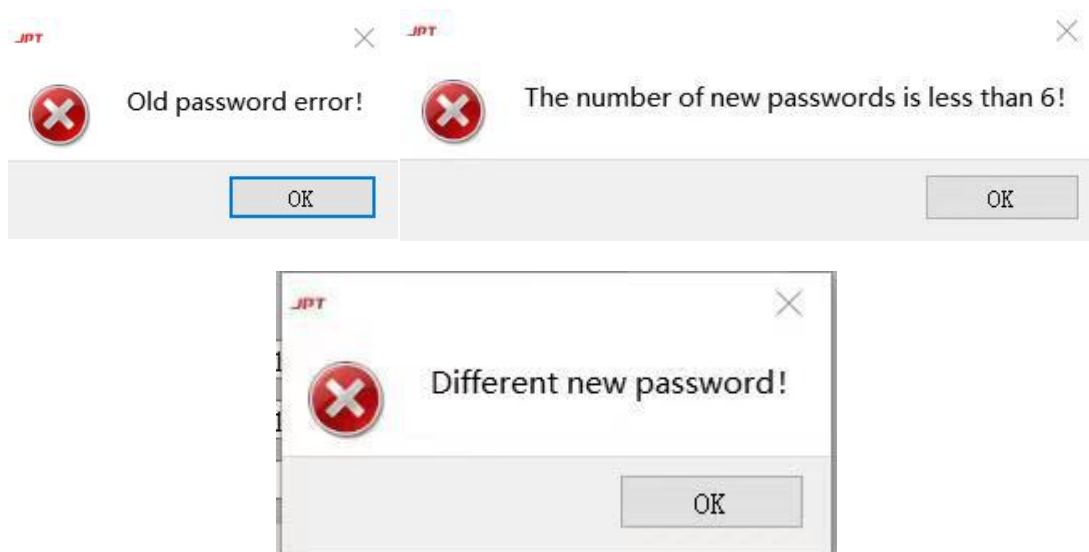

Figure 15
6) A few errors might appear during password modification, as shown in figure 15.